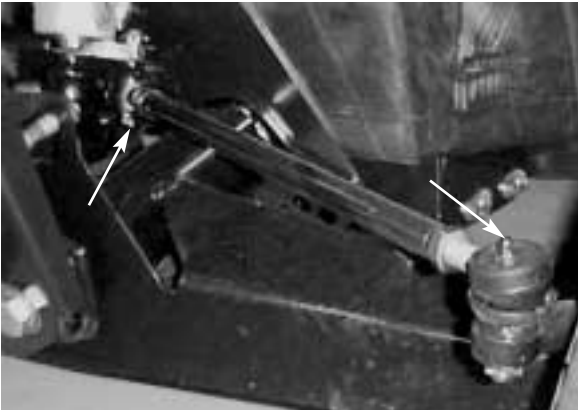
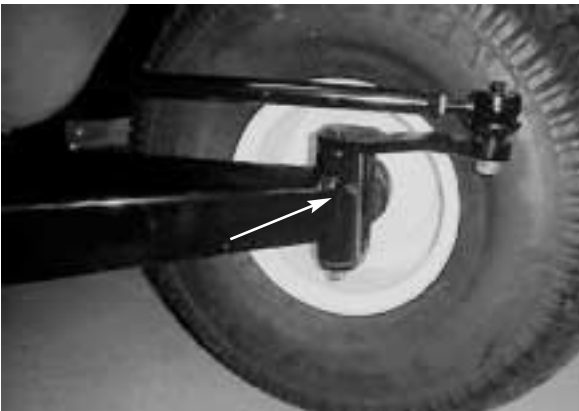
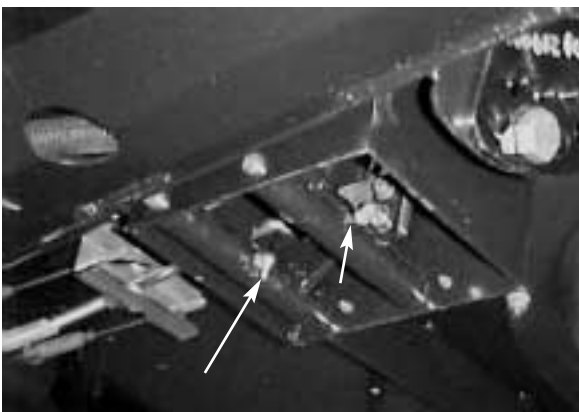

Figure 19
Figure 20
Figure 21
The grease fitting locations and quantities are: tie rod ends (4) (Fig. 19), king pins (2) (Fig. 20), and throttle and brake pedal pivots (2) (Fig. 21).